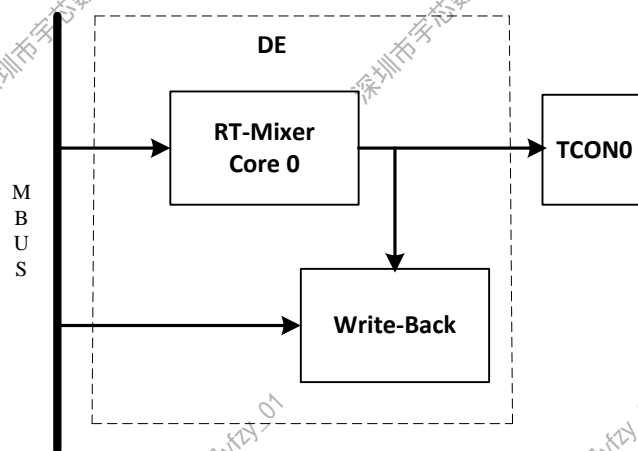

Figure 4-1. DE Block Diagram
The Display Engine(DE) is a hardware composer to transfer image layers from a local bus or a video buffer to the LCD interface. The DE supports four overlay windows to blend, and supports image post-processing in the video channel. The block diagram of DE is shown in Figure 4-1.